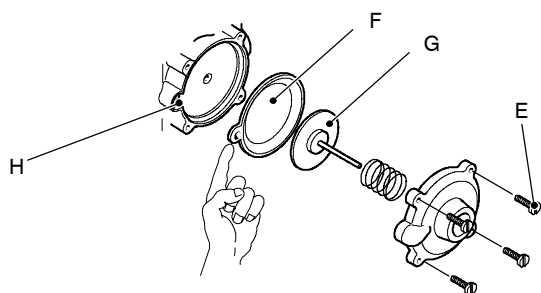

Fig. 50
- 3 Unscrew the four screws E (see Fig. 50) open the hydraulic operator and remove the membrane F.
When assembling the membrane, ensure that its concave side faces towards the actuator plate G and the reference indicated aligns with the seat H (see Fig. 50).